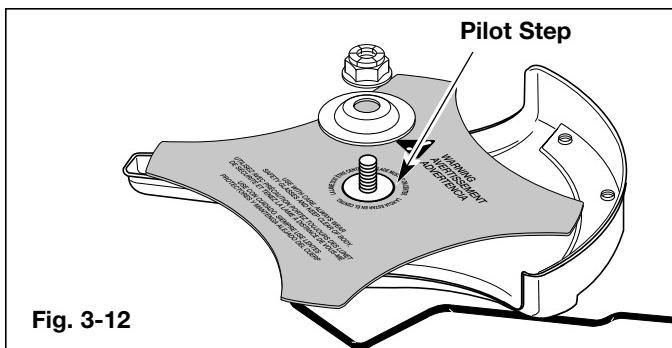

Fig. 3-12
5. Make sure that the cutting blade is centered on the pilot step and sitting flat against the output shaft bushing (Fig. 3-12).